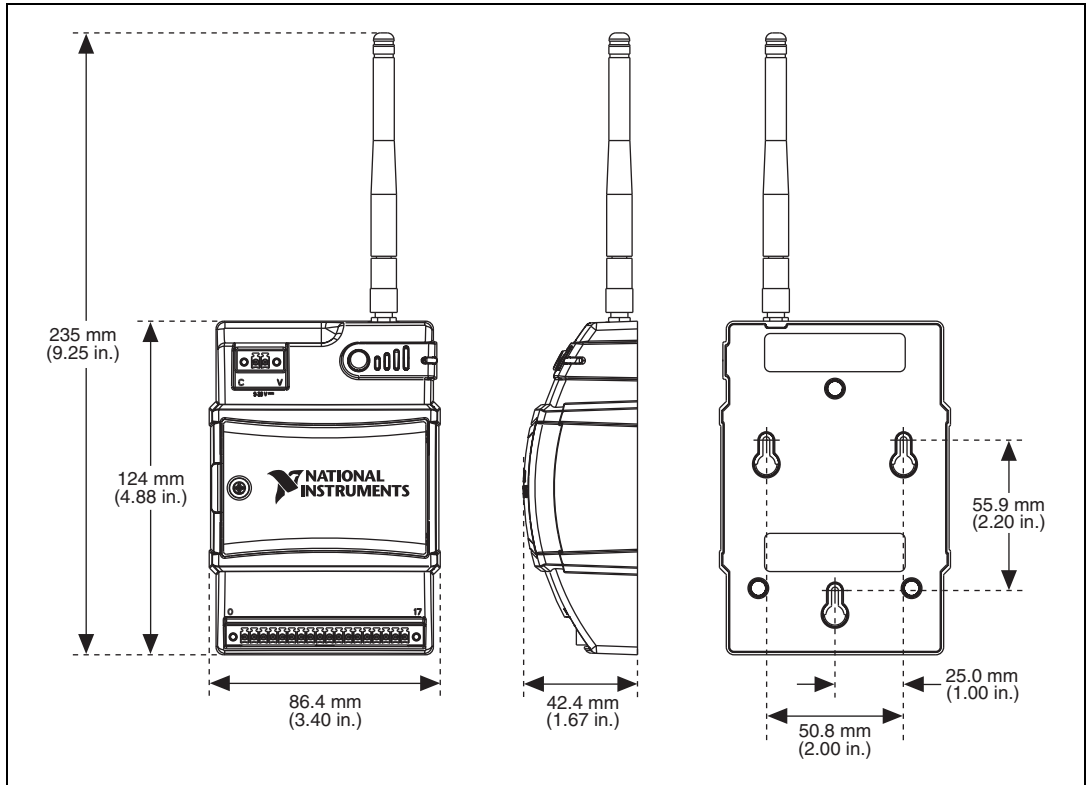

Figure 3. NI WSN-3202 Device Dimensions
Figure 3 shows the NI WSN-3202 device dimensions.
You can mount the NI WSN-3202 on a panel or on a 35 mm DIN rail. For kit accessory ordering information, refer to the NI WSN product page accessory section at ni.com. Before using any of these mounting methods, remove and save the serial number sticker located on the back of the NI WSN-3202 device for future use when configuring your device in software. For the NI WSN-3202 device dimensions, refer to Figure 3.
1. Attach three number 8 or M4 pan head screws in the mounting panel, leaving 0.1 in. space under the head of each screw. Refer to Figure 3 for the correct hole pattern and dimensions.